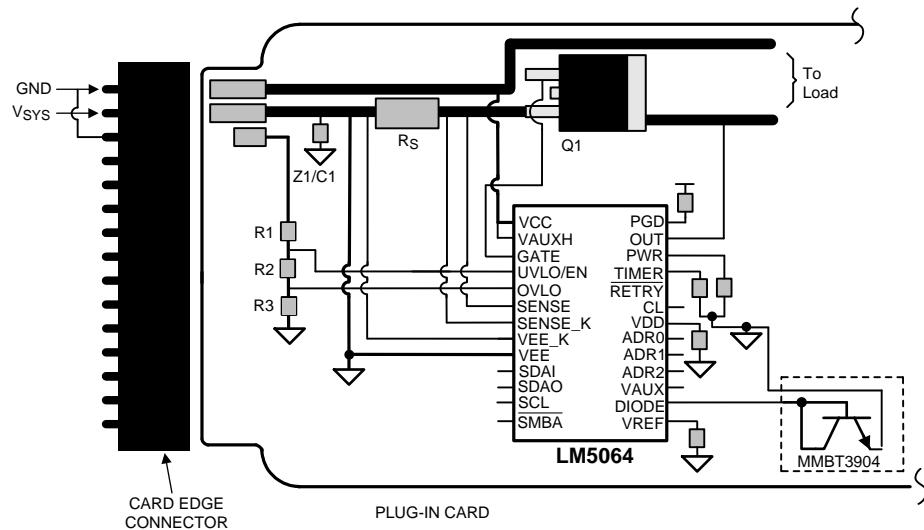

Figure 18. Recommended Board Connector Design
- The board's edge connector can be designed such that the LM5064 detects via the UVLO/EN pin that the board is being removed, and responds by turning off the load before the supply voltage is disconnected. For example, in Figure 18, the voltage at the UVLO/EN pin goes to VEE before  $V_{SYS}$  is removed from the LM5064 as a result of the shorter edge connector pin. When the board is inserted into the edge connector, the system voltage is applied to the LM5064's  $V_{SYS}$  pin before the UVLO voltage is taken high, thereby allowing the LM5064 to turn on the output in a controlled fashion.